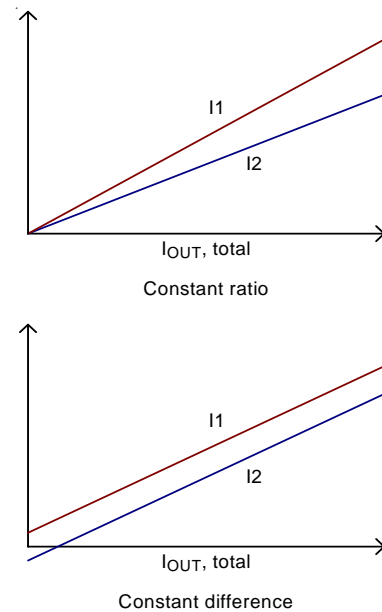

Figure 10. Category of Phase Current Imbalance
If phase current is not balanced due to asymmetric PCB layout of power stage, external resistors can be adjusted to correct current imbalance. Figure10 shows two types of current imbalance, constant ratio type and constant difference type. If the initial current distribution is constant ratio type, according to Equation (3), reducing $R_{CSN}[1]$ can reduce $I_{L}[1]$ and improve current balance. If the initial current distribution is the constant difference type, according to Equation (2), increasing $R_{CSP}[1]$ can reduce $I_{L}[1]$ and improve current balance.